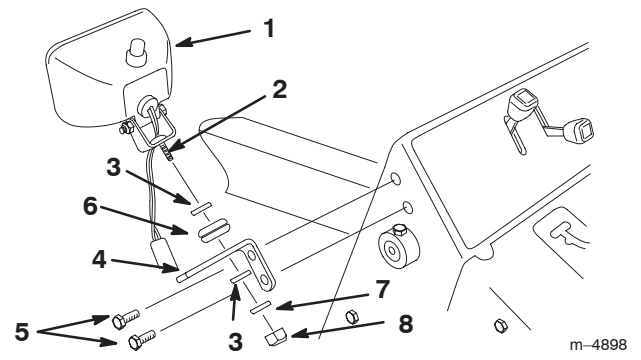

Figure 5
- Install the brackets using the 4 self-tapping bolts (Fig. 5).
- Place a flat washer on the carriage bolt on each light (Fig. 5).
- Insert the rubber grommets into the inner holes in the brackets (Fig. 5)
- Insert the carriage bolts on each light through the rubber grommets in the brackets (Fig. 5).
- Secure each light with a flat washer and the lockwasher and nut you removed in step 2 (Fig. 5).